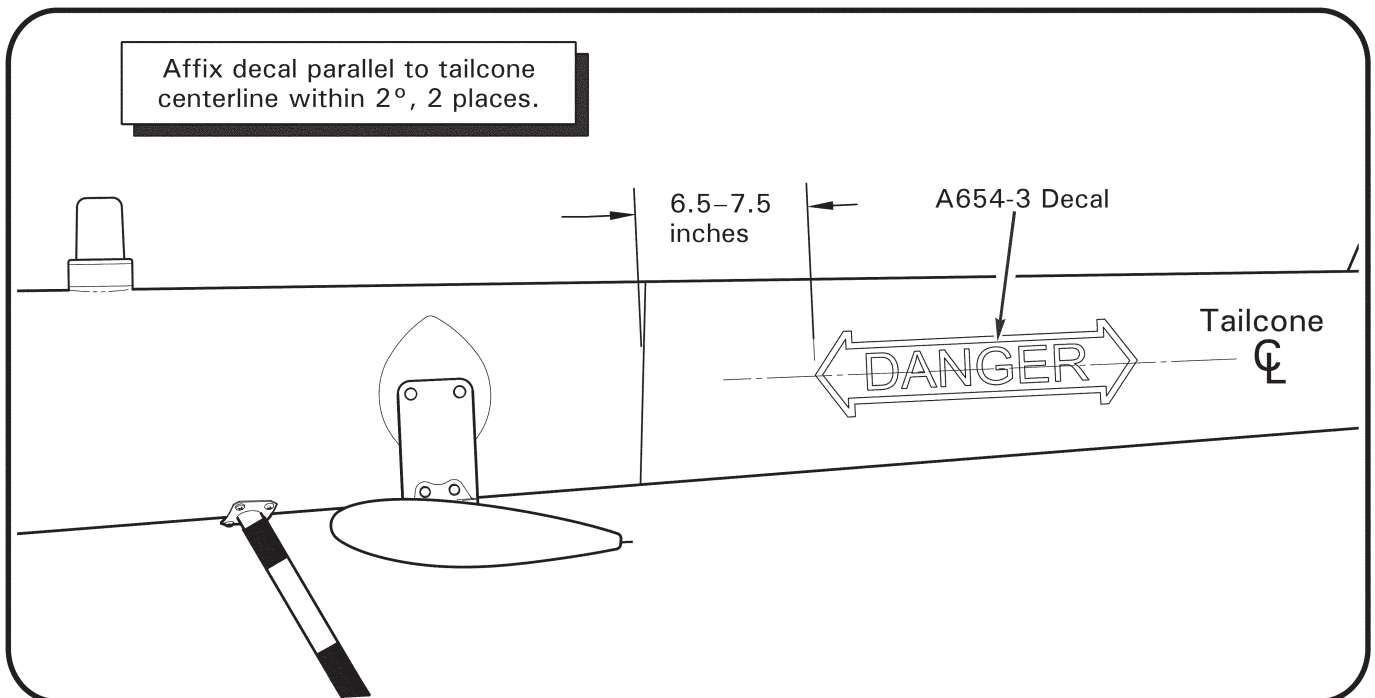

FIGURE 11 A654-3 decal installation
25. Refer to Figure 11. Install A654-3 decal to both sides of tailcone in location shown, per MM § 21-10.